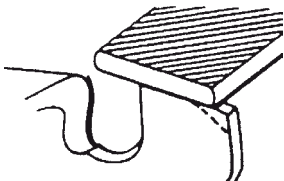

Fig. 48
- 4) Round off front corner to maintain original shape of depth gauge after using depth gauge tool. Always follow the recommended depth gauge setting found in the maintenance or operator manual for your saw. (Fig. 48)